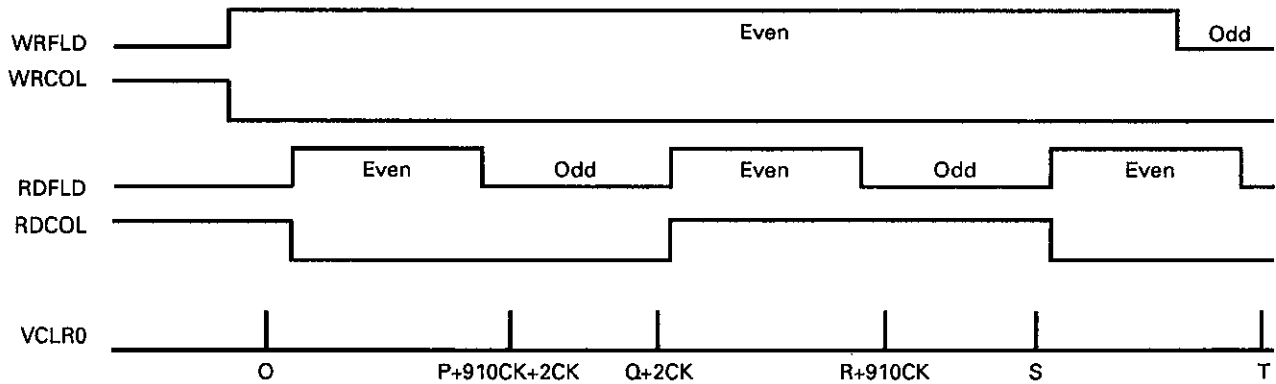

Fig.12 Reset timing on RD side in case of still picture
When the fields and colors on the writing side and reading side are matched to each other and the reset points on the reading side are set to the reference positions "P", "Q", "R", "S", "T", and "U" as shown in Fig. 11 (1), if the field and color information on the writing side are different from those points, the reset points on the reading side are shifted relatively as shown in Fig. 10 ~ Fig. 12.
(C) In case of a still picture in the memory, both field and color on the writing side are kept fixed, the signals are changed to video signals on the reading side according to the NTSC Standard. If the fields are different, the reset position on the reading side is shifted by 1H, similarly to the case of a moving picture. If the color phases are different, the reset position is shifted by 2CK (As shown in Fig. 12).